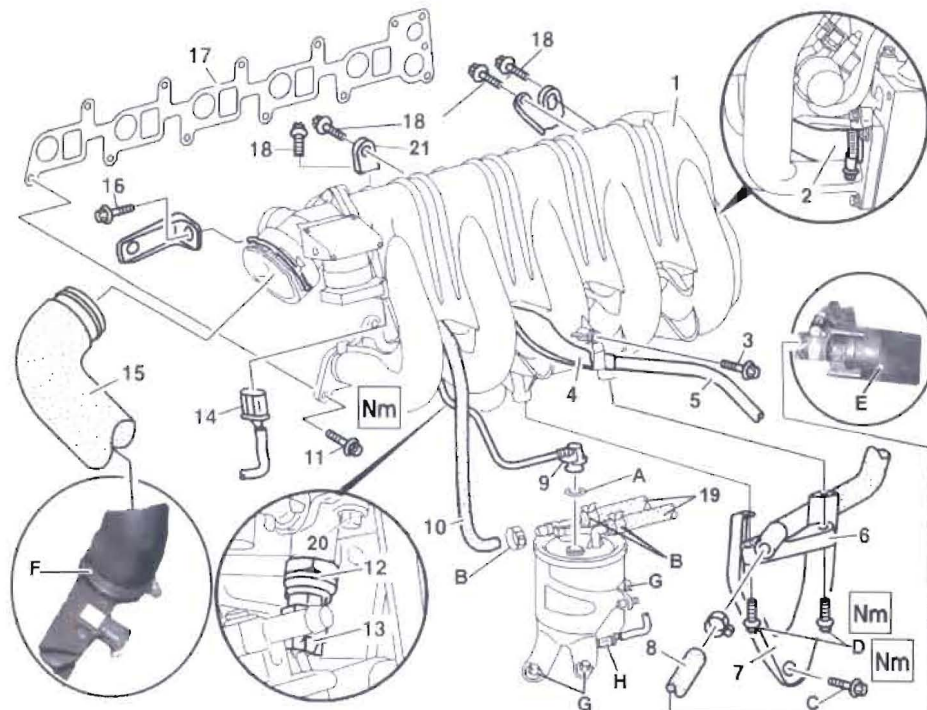

Figure 3
- When disconnecting high pressure fuel line connectors (9, Figure 3) from fuel line fittings, **BE CAREFUL NOT TO BREAK THE CONNECTORS** (refer to WIS: AR47.25-P-1000-01A).
Remove hose clamp (F, Figure 3) then remove charge air pipe (15, Figure 3).
8. Remove bolts (18, Figure 3) and remove bracket (21, Figure 3).
13. Remove bolt (3, Figure 3).
- 19 Remove hose clamp then and disconnect coolant hose (8, Figure 3) from connector (6, Figure 3) then disconnect other end of hose from auxiliary water pump (E, Figure 3).
- Remove hose clamps (B, Figure 3) and discard then disconnect fuel hoses (10, 19, Figure 3).
- Disconnect fuel line (9, Figure 3) refer to WIS: AR47.25-P-1000-01A
- Install **new** fuel line O-ring (A, Figure 3) on fuel line (9, Figure 3).
- Install **new** fuel filter hose clamps (B, Figure 3).
- Remove 3 bolts (G, Figure 3).
- Disconnect water level sensor connector (H, Figure 3) under fuel filter.
21. Remove bolt (C, Figure 3) and 2 bolts (D, Figure 3). then remove bracket (7, Figure 3)
Torque bolts (C, Figure 3) to 20 Nm and bolts (D, Figure 3) to 14 Nm on reassembly.
29. Disconnect connector (13, Figure 3) at fuel pressure sensor (12 Figure 3).